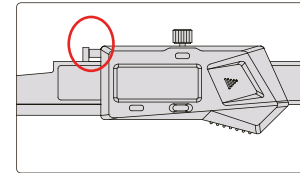

fig 4.
- Pull the ruler, move the measure face to the location point and press zero button to set zero (fig 4.).